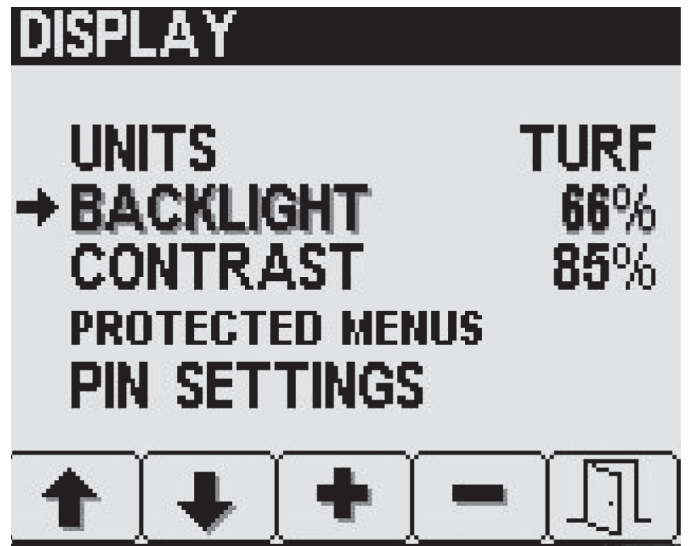

Figure 28
- At the Display menu screen, press button 2 to navigate to the Backlight option or the Contrast option (Figure 28).
- Press button 3 (raise) or button 4 (lower) to adjust the amount of backlighting or amount of contrast for the LED display (Figure 28).